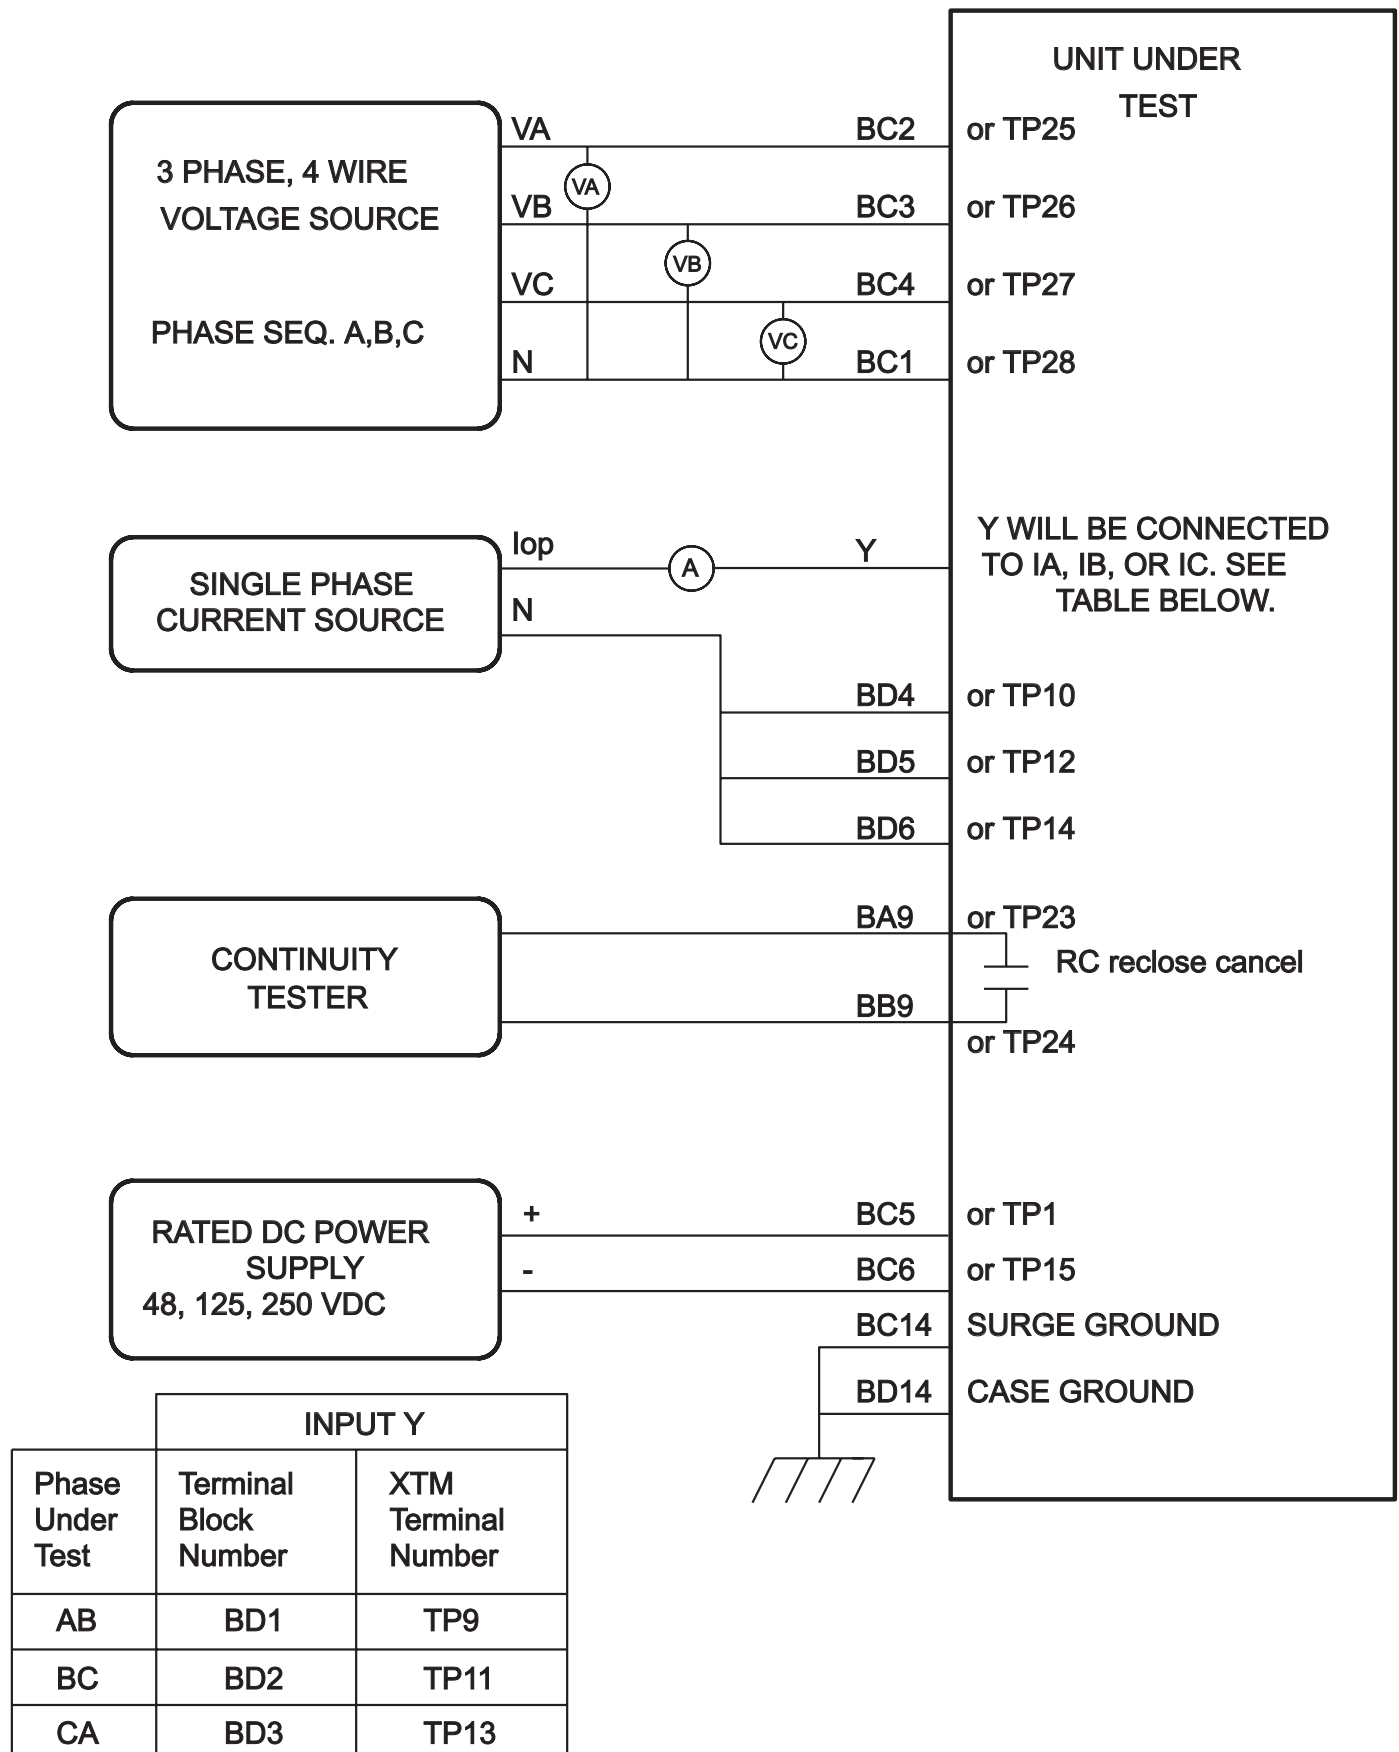

Figure 4-3. (0286A4813, sh. 3) Phase-to-ground test connections.
1. Connect the relay as shown in Figure 4-3.
5. Set Iop to 1.0 amp rms for phases IA, IB, or IC, as shown by the Y connection point in Figure 4-3.